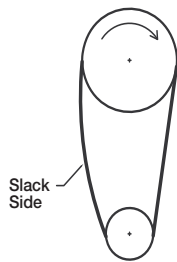

Figure 10a
10. **Sizes 099-161:** Belts should be tensioned just enough to prevent slippage at full load. Belts should have a slight bow on the slack side while running at full load; see Figure 10a.